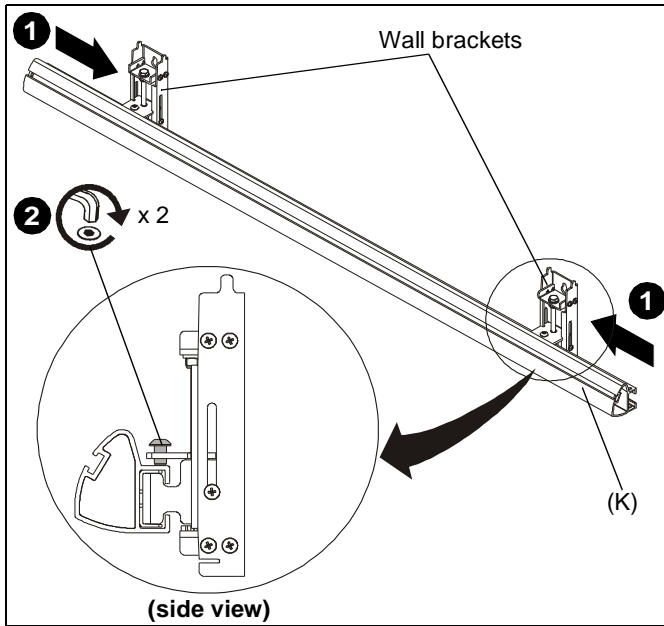

Figure 3
1. Slide wall brackets along wall assembly (K). (See Figure 3)
2. Tighten button head cap screw on each wall bracket to secure wall brackets to wall assembly. (See Figure 3)